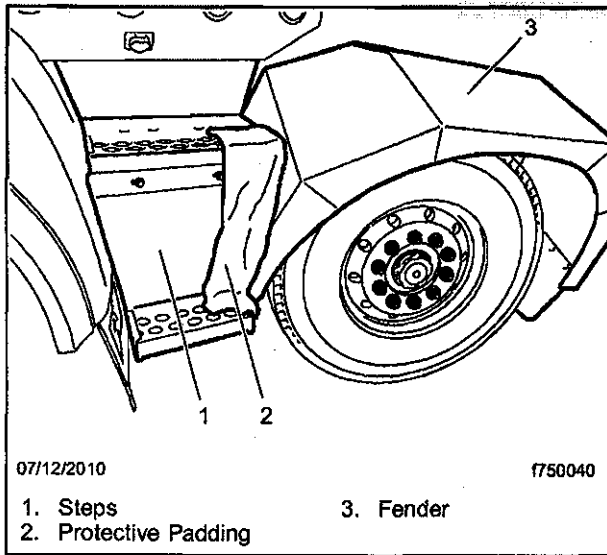

Fig. 1, Partial Removal of the Fender
- 4.2 Swing the rear end of the fender outward, so that the front of the fender rests against the steps. Place a cloth or pad between the fender and the steps to prevent damage. See Fig. 1.